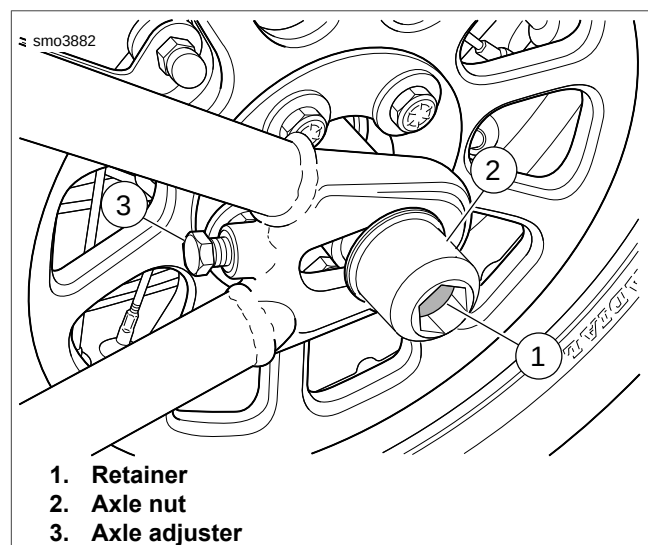

Figure 2-44. Axle Adjusters: FXSB
2. **FXSB:** See Figure 2-44. Loosen rear axle nut (2).
3. On side of rear fork that has longer distance from pivot bolt to axle center, turn nut on axle adjuster (3) counter-clockwise to shorten distance. Adjust axle until left and right side alignment measurements are equal.